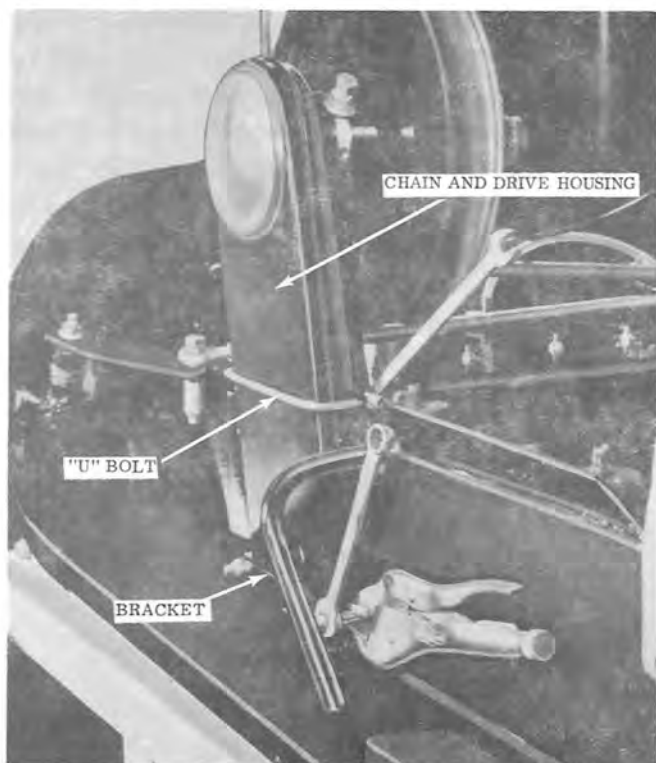

Figure 14
2. Loosen bracket at bottom of the chain housing (See Figure 14). Use vice grips to hold bolts while loosening nuts. Remove only one completely. Swing bracket back to free bottom of chain housing.
3. Remove "U" bolt completely (See Figure 14) by removing two nuts. Figure 14 shows wrenches on fasteners to be loosened and removed.